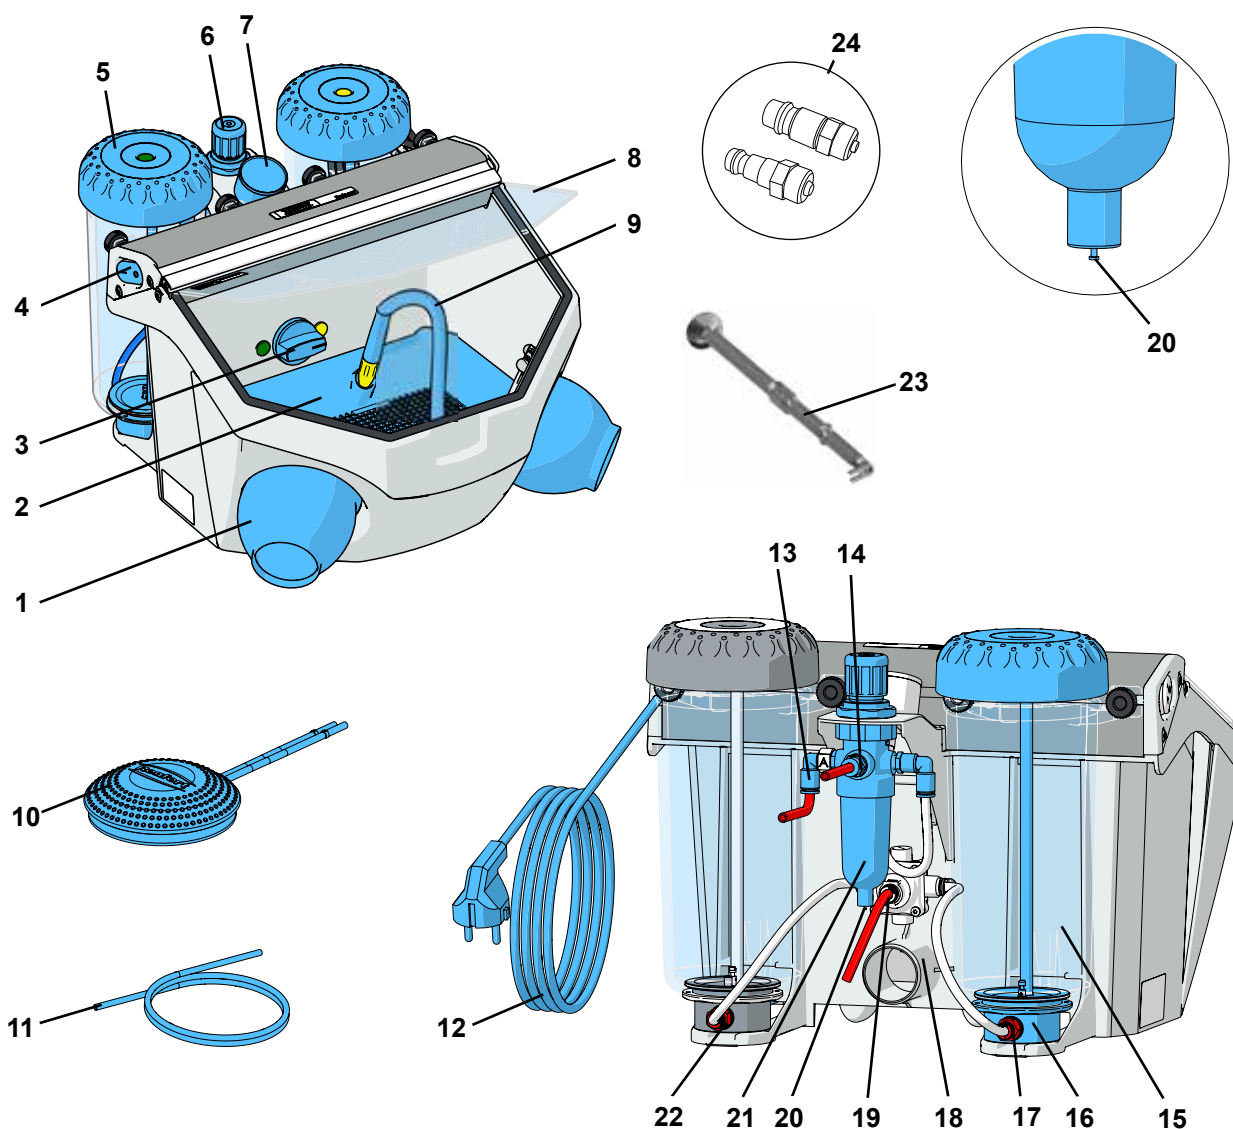

Fig. 1
- ⇒ Unroll the power cable (12, Fig. 1).